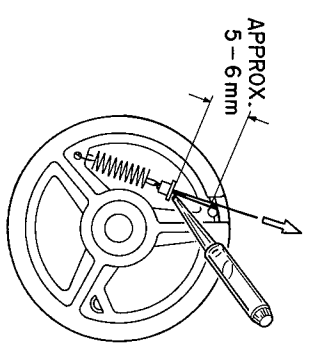

Fig. 5.7
(4) Referring to Fig. 5.7, hook a Pulley Spring in a Front-end Pulley 430 hole. Pull the dial thread so that a space of 5 – 6 mm can be obtained between the protrusion of Front-end Pulley 430 and the Thread Guide. After rounding off the thread guide with pliers, fix it by applying AVDEL BOND #C-2. Note: AVDEL BOND #C-2 should be applied to strengthen adherence of the thread to the guide. Care should also be taken while bonding not to apply excessive adhesive to any other part.